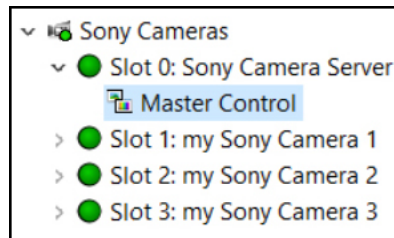

Figure 3.1 - The Master Control Node in the DashBoard Tree
- In the DashBoard component tree, expand the node for the cameras, expand the **Sony Camera Server** node (**Slot 0**), press and hold the **Master Control** node, and then tap **Share Device** (Figure 3.1).